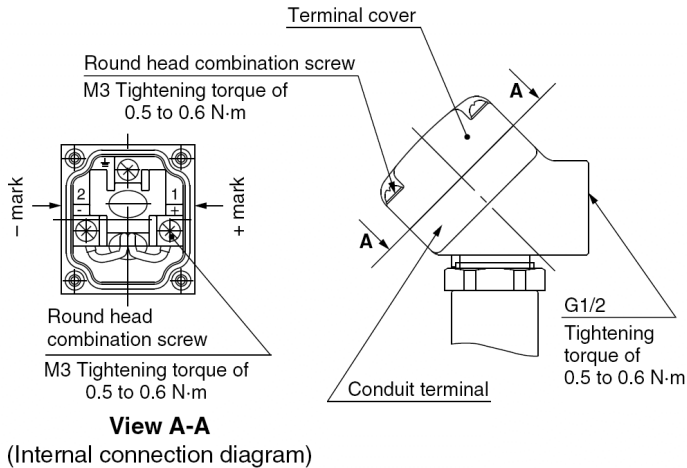

Figure 6
- Make connections according to the marking shown in Figure 6.
- Tighten screws and fittings according to Figure 6.